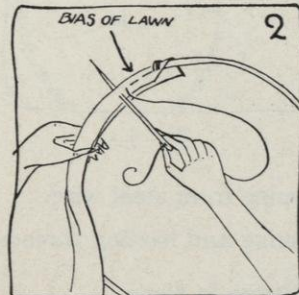

FIG. 2.
- a. Measure the edge of the brim or the part of the hat where the flange is to be placed. Read and follow Job 19 (Things to Do) Sections 2 a, b, c, and see Figure 2 of that job (page 79).
- f. Stretch and baste the bias of lawn over the steel wire, taking a few firm stitches over the clasp so that you can pull from there, and so that the lawn will not slip around as you stretch. Take the stitch as close to the wire as you can (see Figure 2).